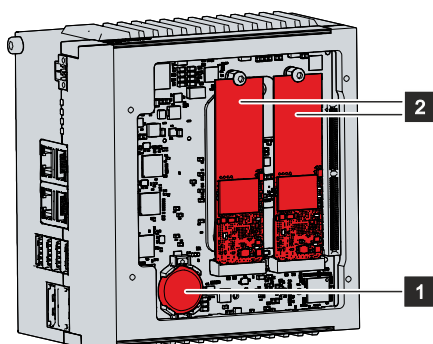

Fig. 20: Battery and storage media
- ⇒ The battery is now in an oblique position (see fig. 20).
5. Push the high side of the battery down into the battery holder (see fig. 20).